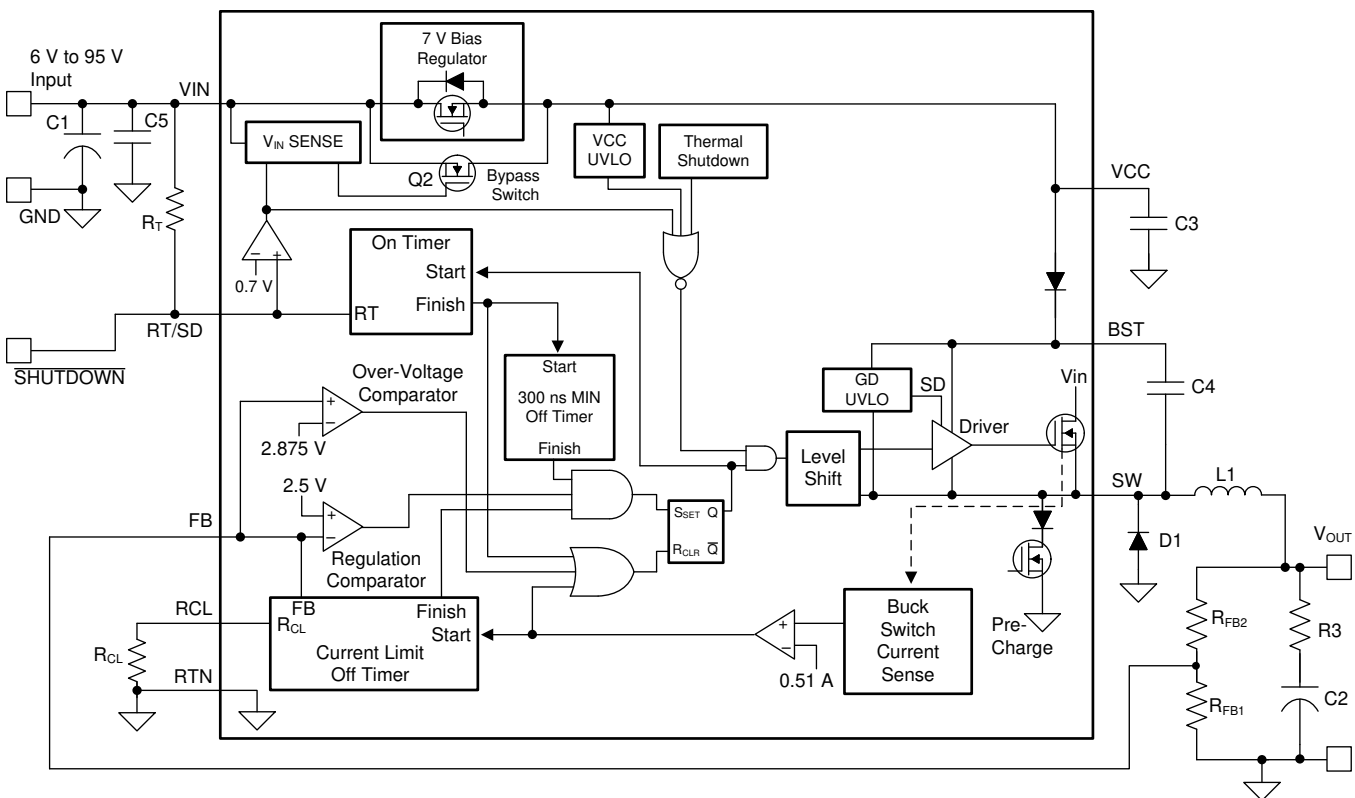

FIG 50. Functional Block Diagram
The output voltage ( $V_{OUT}$ ) is programmed by two external resistors as shown in 图 50. The regulation point can be calculated with 式 7.
The LM5008A regulates the output voltage based on ripple voltage at the feedback input, requiring a minimum amount of ESR for the output capacitor C2. A minimum of 25 mV to 50 mV of ripple voltage at the feedback pin (FB) is required for the LM5008A. In cases where the capacitor ESR is too small, additional series resistance may be required (R3 in the 图 50).
The high voltage bias regulator is integrated within the LM5008A. The input pin ( $V_{IN}$ ) can be connected directly to line voltages between 6 V and 95 V, with transient capability to 100 V. Referring to the Figure 50, when  $V_{IN}$  is between 6 V and the bypass threshold (nominally 8.5 V), the bypass switch (Q2) is on, and  $V_{CC}$  tracks  $V_{IN}$  within 100 mV to 150 mV. The bypass switch on-resistance is approximately 100  $\Omega$ , with inherent current limiting at approximately 100 mA. When  $V_{IN}$  is above the bypass threshold Q2 is turned off, and  $V_{CC}$  is regulated at 7 V. The  $V_{CC}$  regulator output current is limited at approximately 9.2 mA. When the LM5008A is shut down using the RT/SD pin, the  $V_{CC}$  bypass switch is shut off regardless of the voltage at  $V_{IN}$ .